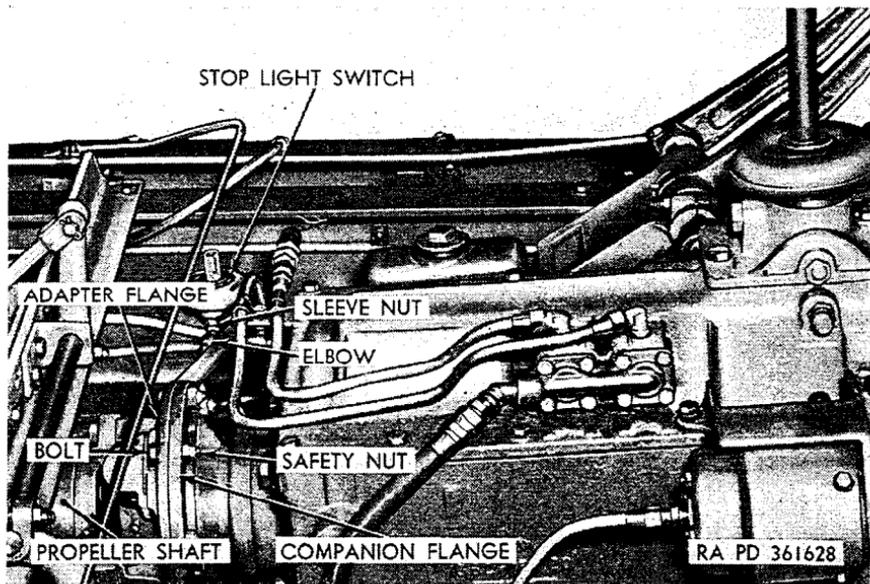

Figure 141. View of right rear section of transmission and transmission-to-transfer propeller shaft.
- (1) *Remove power-take-off.* Refer to paragraph 209d (M51 only) or paragraph 209b (vehicles equipped with front winch only).
- (2) *Disconnect transmission-to-transfer propeller shaft* (fig. 141). Remove eight safety nuts and bolts securing universal
(1) *Connect transmission-to-transfer propeller shaft.* Position universal joint journal adapter flange (fig. 141) against companion flange at rear of transmission, align mounting bolt holes in flange and adapter, and insert eight bolts in holes. Install eight safety nuts on bolts and tighten.